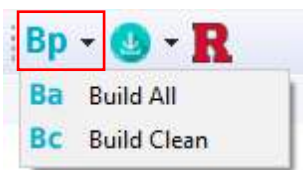

Figure 26: Build Project Options (See Toolbar)
- Build the project by clicking on "Build All" (Figure 26).